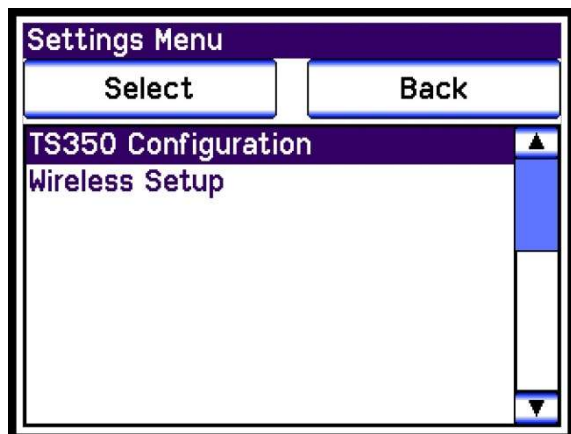

Figure 13
- **Settings Menu** will be displayed (**Figure 13 or 14**).